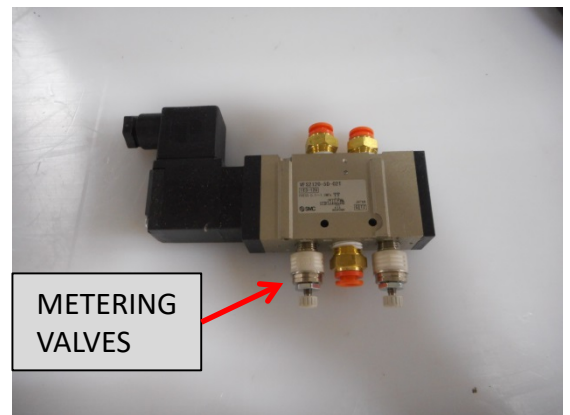

Fig. 6
6. Compressed air may now be applied to the diverter and operation may be confirmed. Quick or erratic movement of the diverter plate may be controlled by adjusting the metering valves on the control valve. (Fig 6)